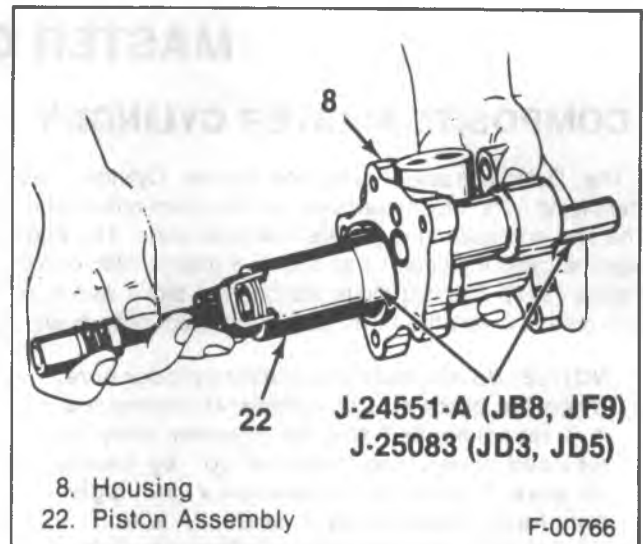

Figure 7—Installing the Piston Assembly
1. Seal (10) and return line fitting (12).
2. Accumulator valve (11).
3. Spool valve (13).
4. Seal (23) and piston assembly (22) by using J 24551-A or J 25083 (figure 7).
5. Seal (14) onto the piston assembly (22).
6. Seal (15) onto the housing (8).
7. Cover (16).
8. Bolts (9).